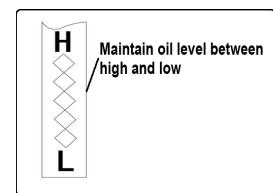

Figure 35
4. Unscrew and remove oil fill cap from oil filler tube. Note oil level. If oil reading on dipstick is below "LOW" mark, slowly add oil to reach "HIGH" level. See Figure 35.